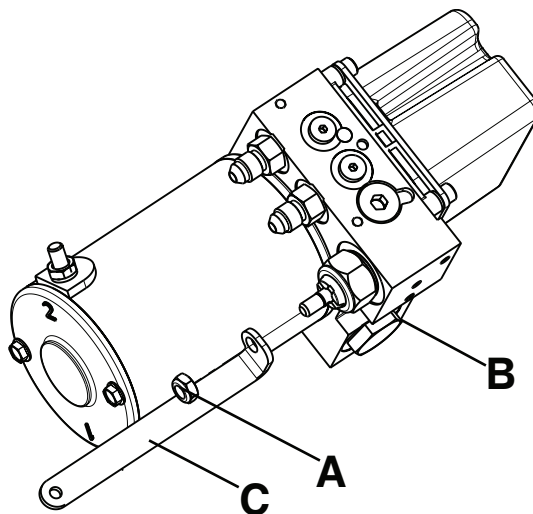

Figure 31: Non-locking manual valve
5. Using a 7/16" deep well socket and 3/8" drive ratchet, remove the Nylock Hex nut (A) that secures the non-locking manual valve (B) to the manual release link (C) (Figure 31 on page 63).
**Note:** Place a 1/16" hex wrench through the slot on the non-locking manual valve (B) to keep it from turning (Figure 31 on page 63).
6. Using a 7/8" deep well socket and 3/8" drive ratchet, remove the non-locking manual valve (B) (Figure 31 on page 63). Discard the valve.